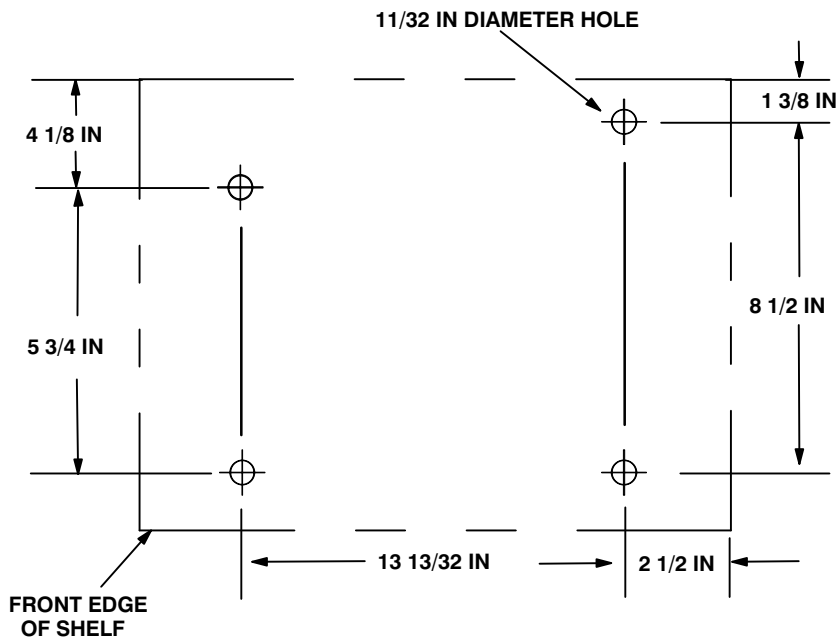

Figure 5-4 (1). Mounting Base Installation: Drilling Dimensions
| a. Existing roadside radio shelf. | Using dimensions shown, drill four 11//32 in diameter holes. See Figure 5-4 (1). | Tools: Electric drill and 11/32 in drill bit. |